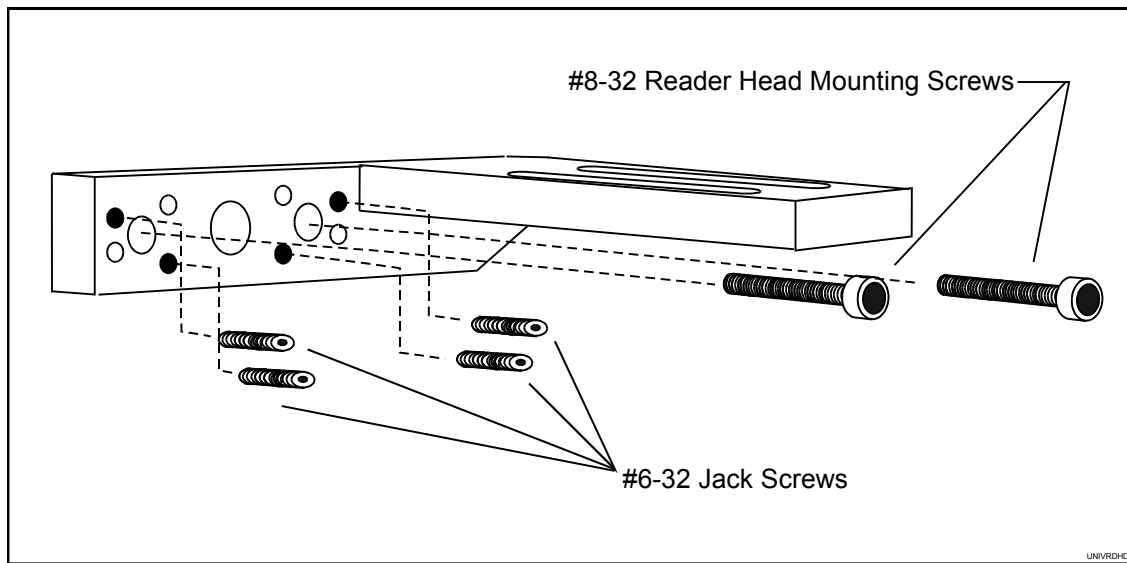

Figure 8, Reader Head Installation Hardware
3. Refer to **Figure 8, Reader Head Installation Hardware**. Start the #8-32 reader head mounting screws, but do not tighten.